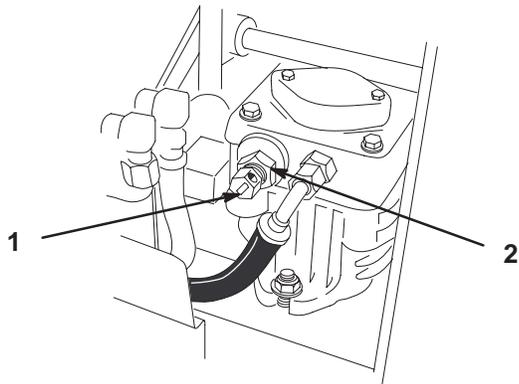

Figure 15
- Loosen jam nuts and rotate by-pass valves open 5 turns to push. This allows hydraulic fluid to by-pass the pump and the wheels to turn (Fig. 15).